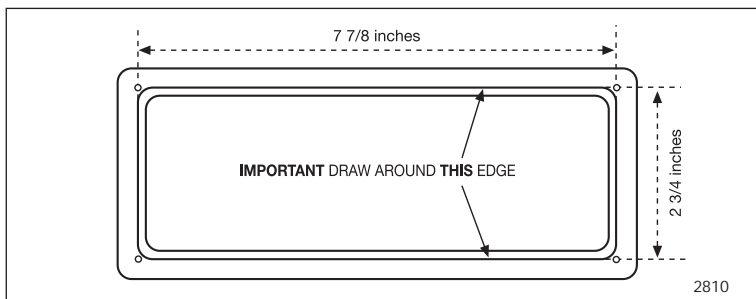

Figure 3. Escutcheon Dimensions
3. Place the escutcheon on the bulkhead or panel in the required position and pencil around the outside edge of the escutcheon slot wall (see Figure 3).
4. Remove the escutcheon and measure your marks. They should measure approximately 7 7/8 inches wide by 2 3/4 inches high. If not, check Figure 3 to ensure you measured the correct edge.